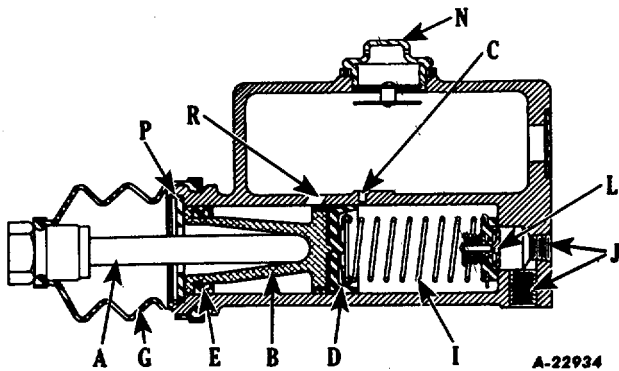

Fig. 1. Typical Master Cylinder
The combination or compensating type master cylinder (Fig. 1) consists of a barrel and tank casting, residual check valve (L), piston cup return spring (I), piston cup (D), piston (B), piston stop (P), boot (G) and push rod (A).